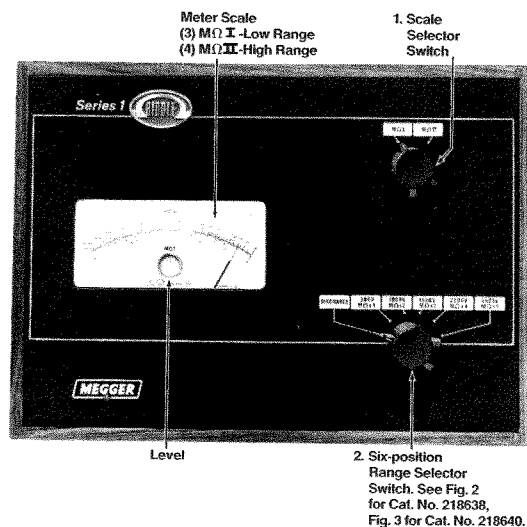

Figure 4: Panel arrangement of the Cat. No. 218638 Heavy-Duty Megger tester.
There are two rotary switch controls on the panel. The control adjacent to the meter is the two-position Scale Selector switch, Fig. 4 (1). The control immediately below is the six-position Range Selector switch, Fig. 4 (2).
The Scale selector has two positions  $M\Omega I$  and  $M\Omega II$ . Position  $M\Omega I$  corresponds to the inner scale of the meter dial and is selected when readings are being made on the low range scale, Fig. 4 (3).
Position  $M\Omega II$  corresponds to the outer scale of the dial and is selected when readings are being made using the high range scale, Fig. 4 (4).
Place the instrument on a firm, reasonably level base and remove the cover to expose the instrument scale plate. A circular spirit level (Fig. 4) will be seen. Adjust the three screw feet on the base of the instrument until the bubble is centered in the spirit level. The instrument is now ready to operate.